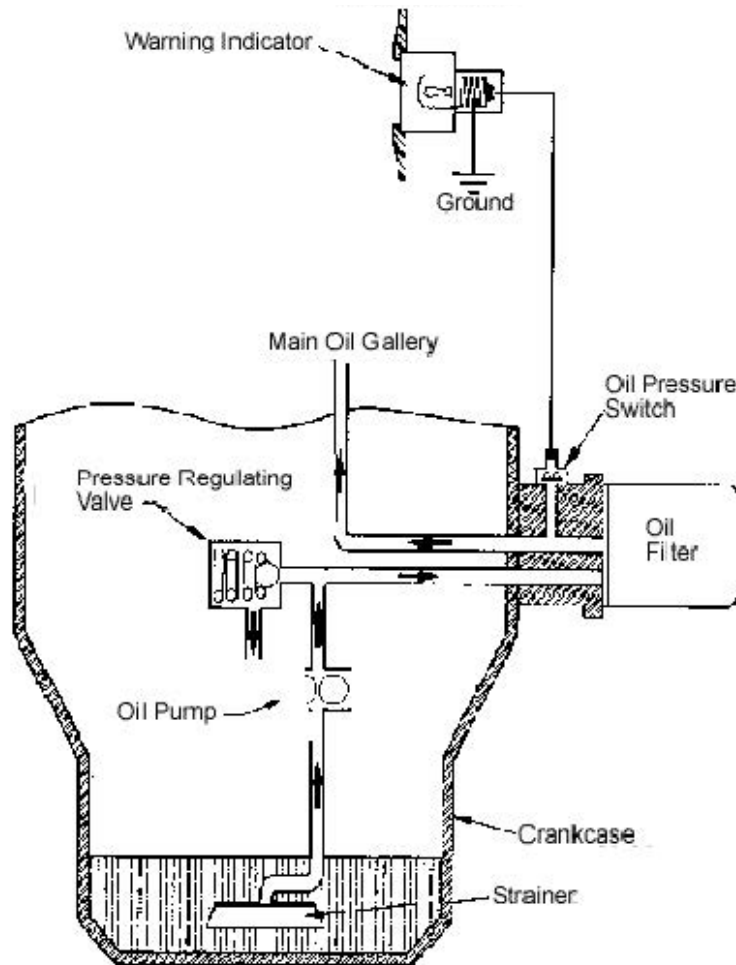

FIGURE 2
On some engines the filter is mounted in a position which could allow the oil in the filter to drain back to the crankcase when the engine is shut down. This would be the case for the filter shown in Figure 2 where the filter is horizontal and is above the level of the oil in the crankcase. Normally, it takes less than five (5) seconds for the pump to fill the filter after the engine has been started, during which time the warning device will indicate no or low oil pressure.